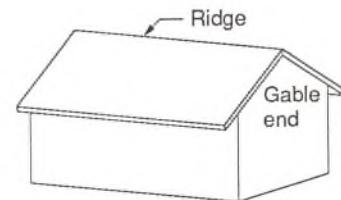

Fig. 23.2 A view of a gable roof with the ridge running parallel to the wide side of the house.
When using a gable or hip roof, the ridge can run parallel with the front of the house as in Fig. 23.2, or it can run from front to back as in Fig. 23.3. When the house is rectangular in shape, rafters are usually placed so that they span the two narrow sides of the rectangle.
4. Select the ridge layout to be used from Figs. 23.2 and 23.3.